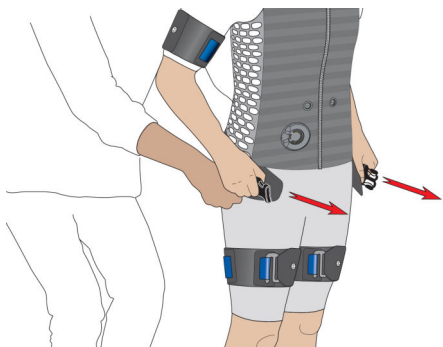

Fig. 50: Fastening the i-body® belt
22. ► Securely fasten the i-body® belt (Fig. 50).